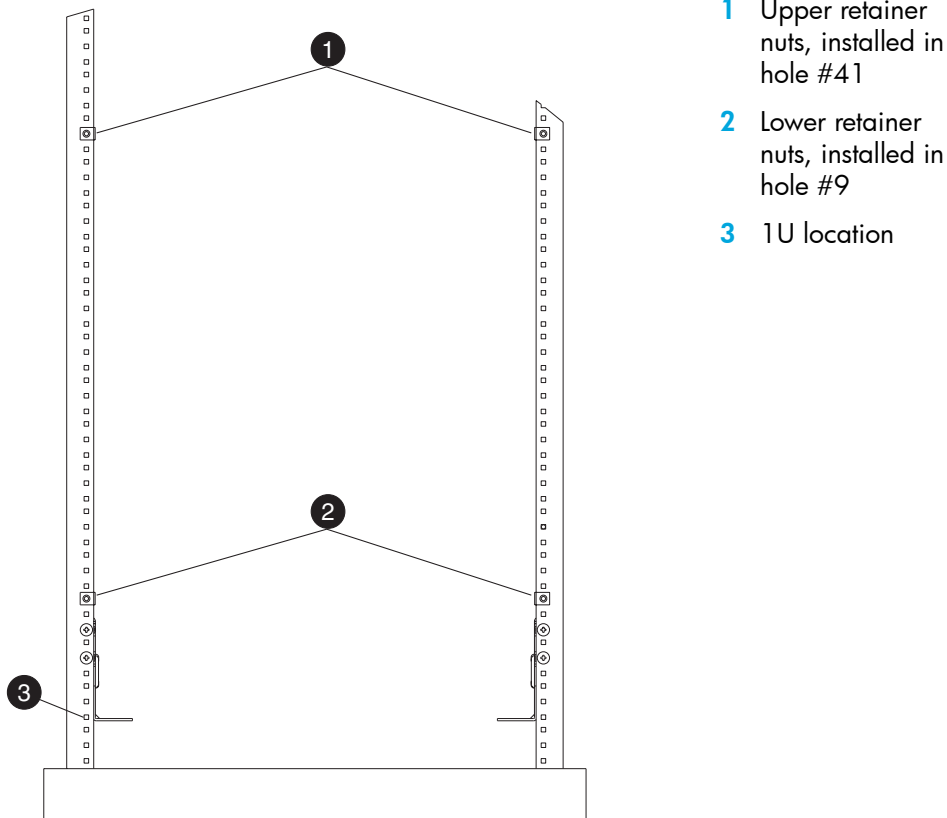

Figure 6 Installing the retainer nuts on the rails
2. Attach the four retainer nuts to the two rails at the front of the rack (service aisle side). See Figure 6.
2. Attach the four clip nuts to the two rails at the front of the rack (service aisle side). See Figure 6.